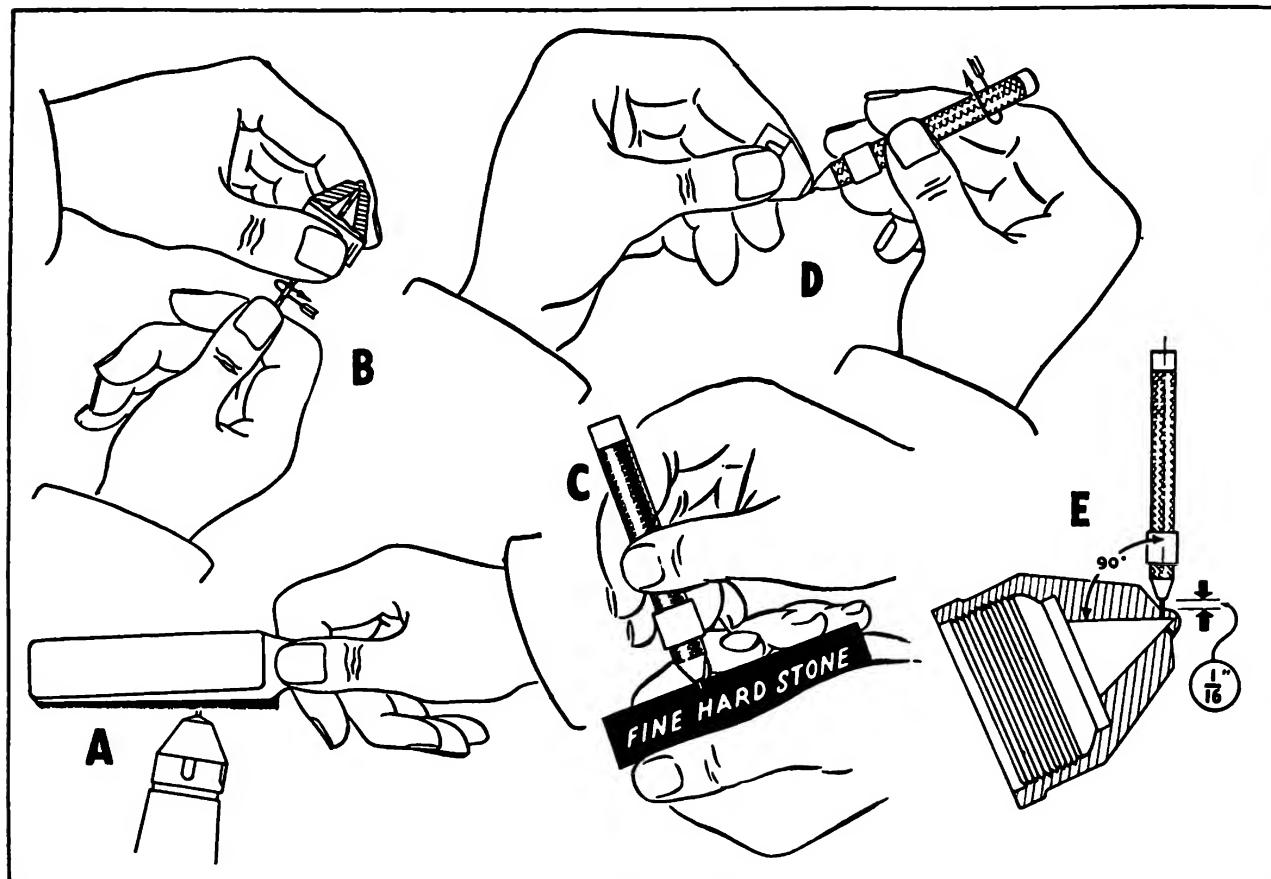

Fig. 6-18. Cleaning injector cup
8. Before using the small wire drills that are furnished to clean the spray holes, place the wire in the pin vise, letting it project about $1/16"$ from the end of the vise. With a very fine hone, "C", sharpen the end of the drill to a wedge. This must be done every time a new drill is used or the old one is broken. When a wire drill is cut off or broken, burrs are always present to scratch the inside of the spray holes in the cup. This will cause deflection of the spray and poor combustion. See Fig. 6-18.